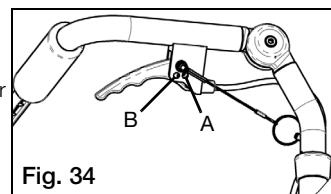

Fig. 34
- Determine which style back canes and trigger were provided with the chair by checking against Fig. 34 and 35.
- Insert the pin attached to the trigger by a lanyard into hole number 2 (Fig. 34:A and B).